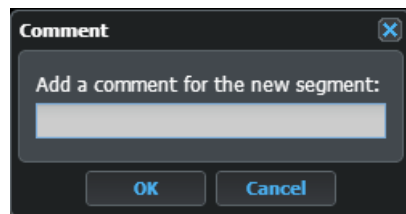

Fig. 7-170: Logger Page - Key Segment Comment
- 5 Enter a description or a title for the new key segment in the **Comment** dialog, see Figure 7-170.